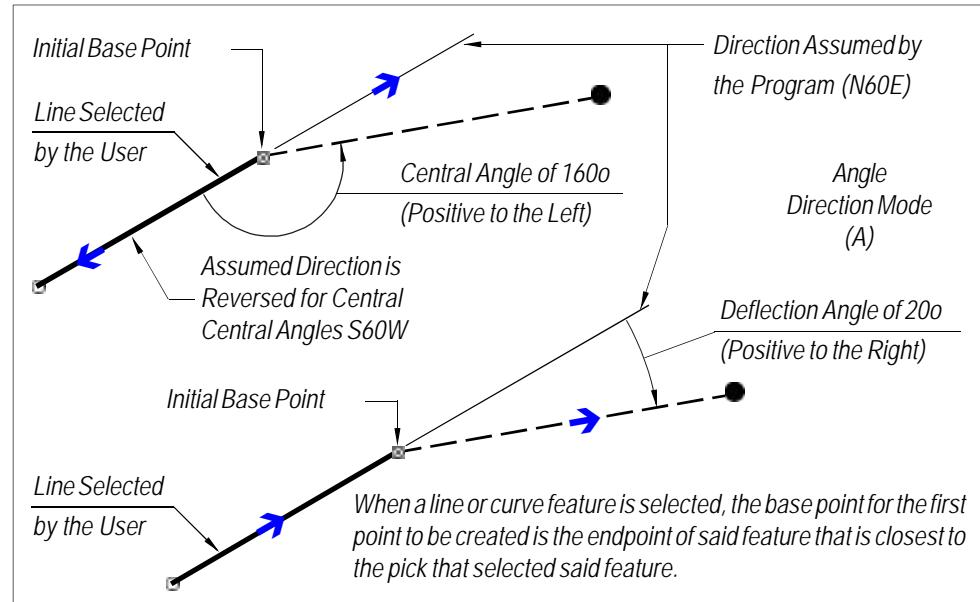

Figure 7
- When deflection angles are specified, the initial baseline direction is used to add or subtract the deflection angle. When traversing, the baseline direction always points ahead (see Figure 7).
- When central angles are specified, the initial baseline direction is reversed by 180° prior to adding or subtracting the central angle. When traversing, the baseline direction is always reversed (see Figure 7).